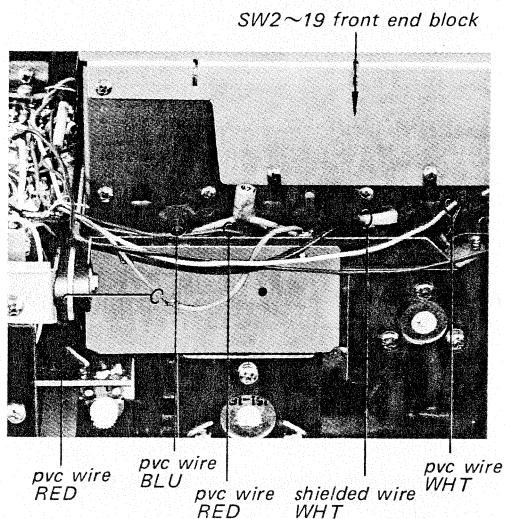

Fig. 2-10
1. Unsolder the five wires shown in Fig. 2-10.